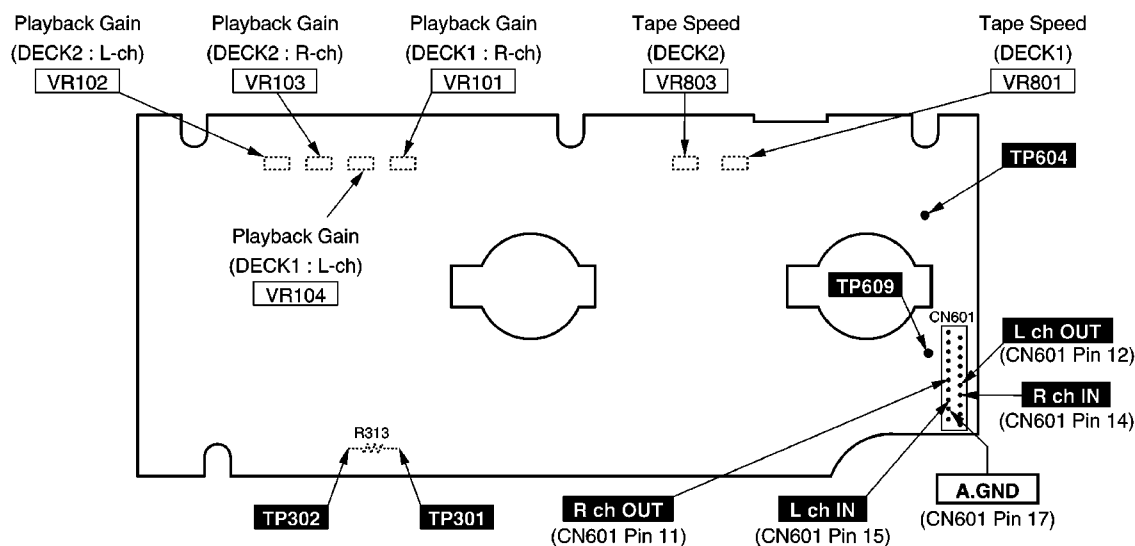

Fig. 13-11.
3. Adjust **VR801** (Deck 1) and **VR803** (Deck 2) for output value shown below. (For adjustment point, refer to Fig. 13-11.)
3. Adjust Deck 2: **VR102** (L ch) [**VR103** (R ch)] and Deck 1: **VR104** (L ch) [**VR101** (R ch)] so that the output is within the standard value shown below. (For adjustment point, refer to Fig. 13-11.)
3. Check if the output at this time between the erase current confirmation point **TP301** and **TP302** (the output on both edged of R313) is within the standard value shown below. (For the erase current confirmation point, refer to Fig. 13-11.)